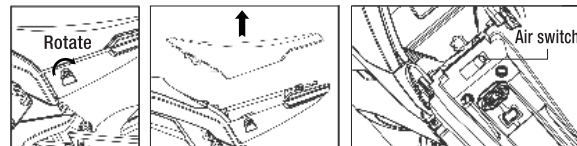

Figure 2
- ①Unlock the seat lock - remove the seat - turn off the air switch. (Figure 2)